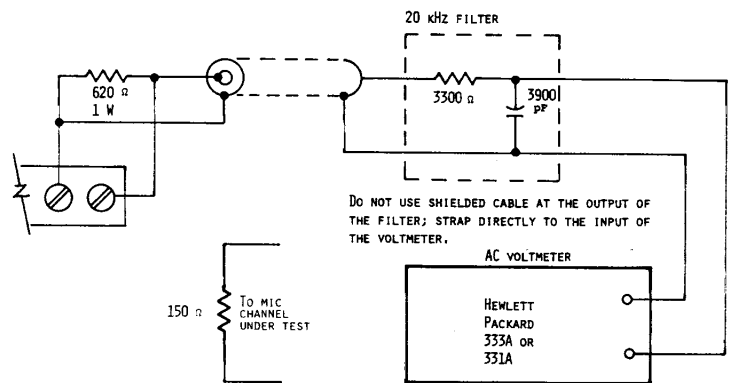

FIGURE 11, 20 kHz FILTER
- See Figure 11
Using the test set-up, Figure 11 or 12:
6. Install the 20 kHz filter, Figure 11.